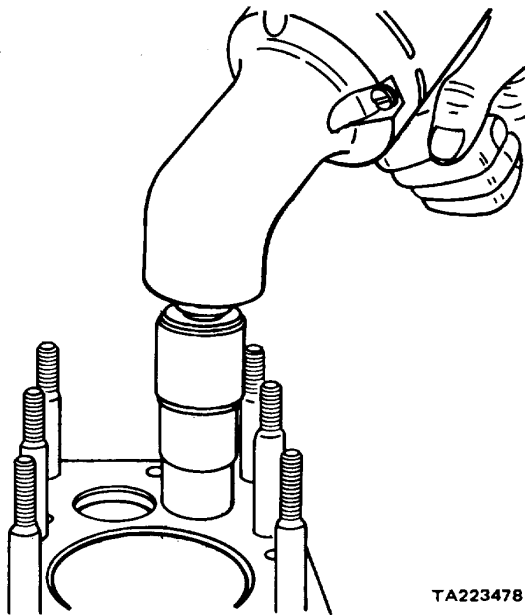
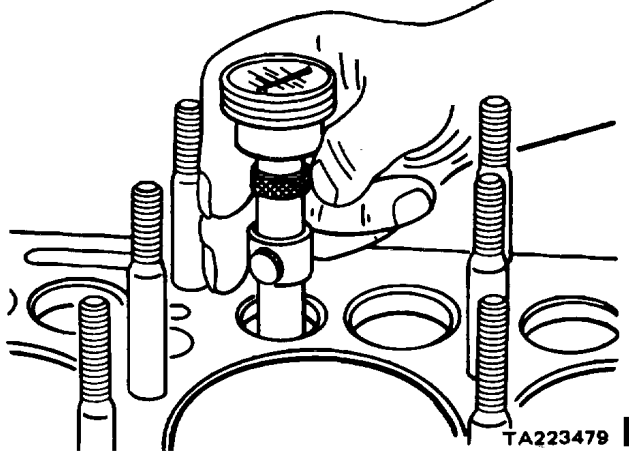

Figure 9-10. Grinding Valve Seat.
Figure 9-11. Checking Valve Seat turnout.
i. Grind the valve seats (fig. 9-10). The seat angle of the intake valves is 45°. The seat angle of the exhaust valve is 45°. Use a dial indicator (fig. 9-11) to check the valve seat for runout. The total indicator reading must not exceed 0.002 inch. Clean the valve seat and exceed 0.002 surrounding area thoroughly after grinding.